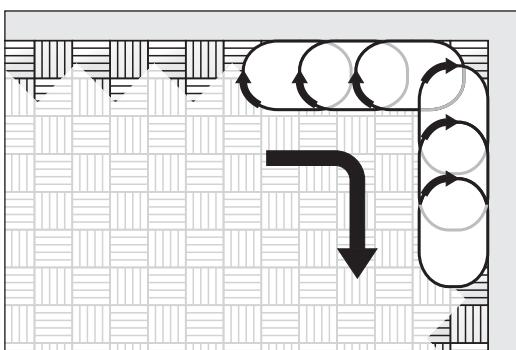

Fig. 12 FLIP® with short or long attachment:
- The FLIP® with **short or long attachment** is handled with rotary **clockwise** movements (fig. 12) during the sanding process!